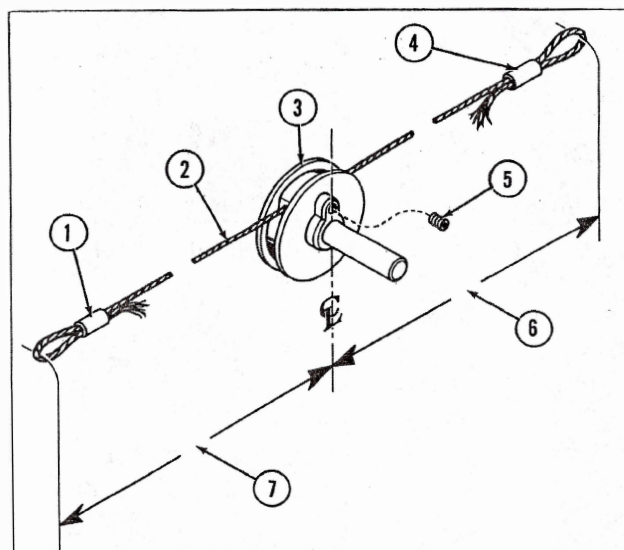

Fig. 86. TURNTABLE CABLE AND DRIVE PULLEY
(1) To install a new cable for the turntable actuating shaft assembly, pass the cable (Fig. 86, Item 2) through the hole in the drive pulley (Item 3) and form a loop at each end of the cable  $\frac{3}{4}$  of an inch long, clamping with sleeves (Items 1 and 4). Locate the cable in the pulley to conform to the dimensions shown at (Items 6 & 7) and lock securely with the set screw (Item 5).